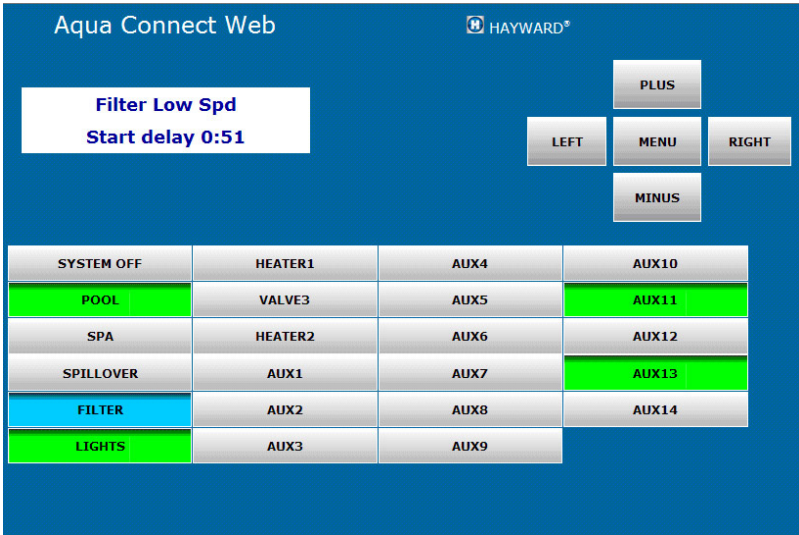
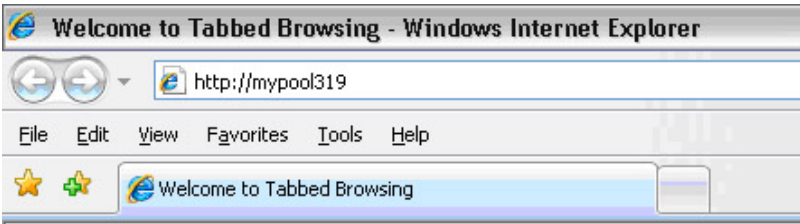

Figure 1
Figure 2
The local server will automatically take the appearance of the pool control's interface. A sample screen of the local server for a PS-16 controller is shown below in Figure 1.
**Accessing the local Server using the ACHN's URL** - the ACHN uses its unique Media Access Control (MAC) address to identify and access its local server. The MAC address for each ACHN is located on the bottom of each device. The MAC is a string of the form **00:23:62:00:wx:yz** where **"wxyz"** represents a string of valid hexadecimal characters (0–9 and A–F are valid). To start the local server, type the ACHN's Uniform Resource Locator (URL) into your web browser's address field. The local server's URL (i.e., logical name) is the string **"mypoolxyz"** where the **"xyz"** consists of the last three digits of the ACHN's MAC address. For instance the URL of the ACHN shown in Figure 1 is **"mypool319"** because its MAC address ends in **"319"**. Do not type www or any other prefix. Do not put .com or .org or anything else at the end. Just enter **"mypool319"** into the address field at the top of the browser as shown in Figure 2.